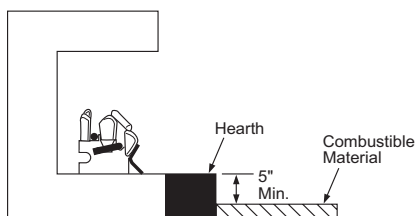

Figure 9 - Minimum Fireplace Clearances Above Combustible Flooring
B. If combustible materials are less than 14" to fireplace, you must install appliance at least 5" above the top surface of combustible flooring including tile and carpet.(see Figure 9 page 11).